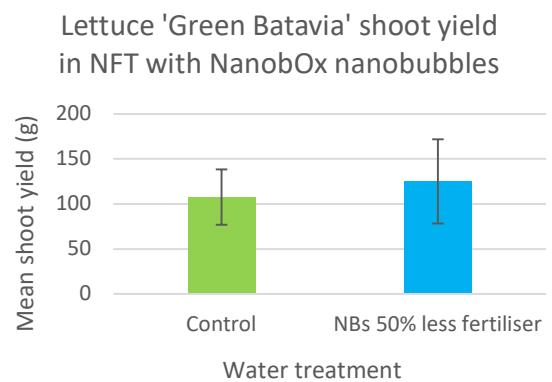

Figure 1. Control (left) vs. NanobOx-treated (right) lettuce in NFT system, and graph showing yields at harvest.
- **Comparable plant growth and visual quality to the control:** normal morphology, colouration and turgor; no visible deficiency symptoms (Figure 1).